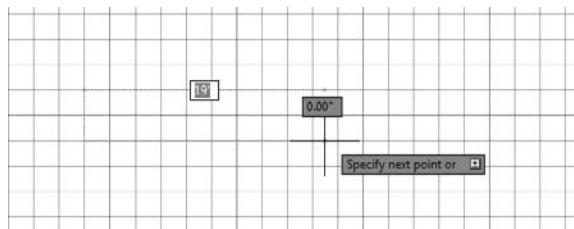

FIGURE 3.14 Setting the angle for the first line
3. Don't click yet. Hold the crosshair cursor directly out to the right of the first point picked and note how the linear dimension displays a distance in 6" (50 mm) increments. The angular dimension should have an angle of 0.00°, as shown in Figure 3.14.